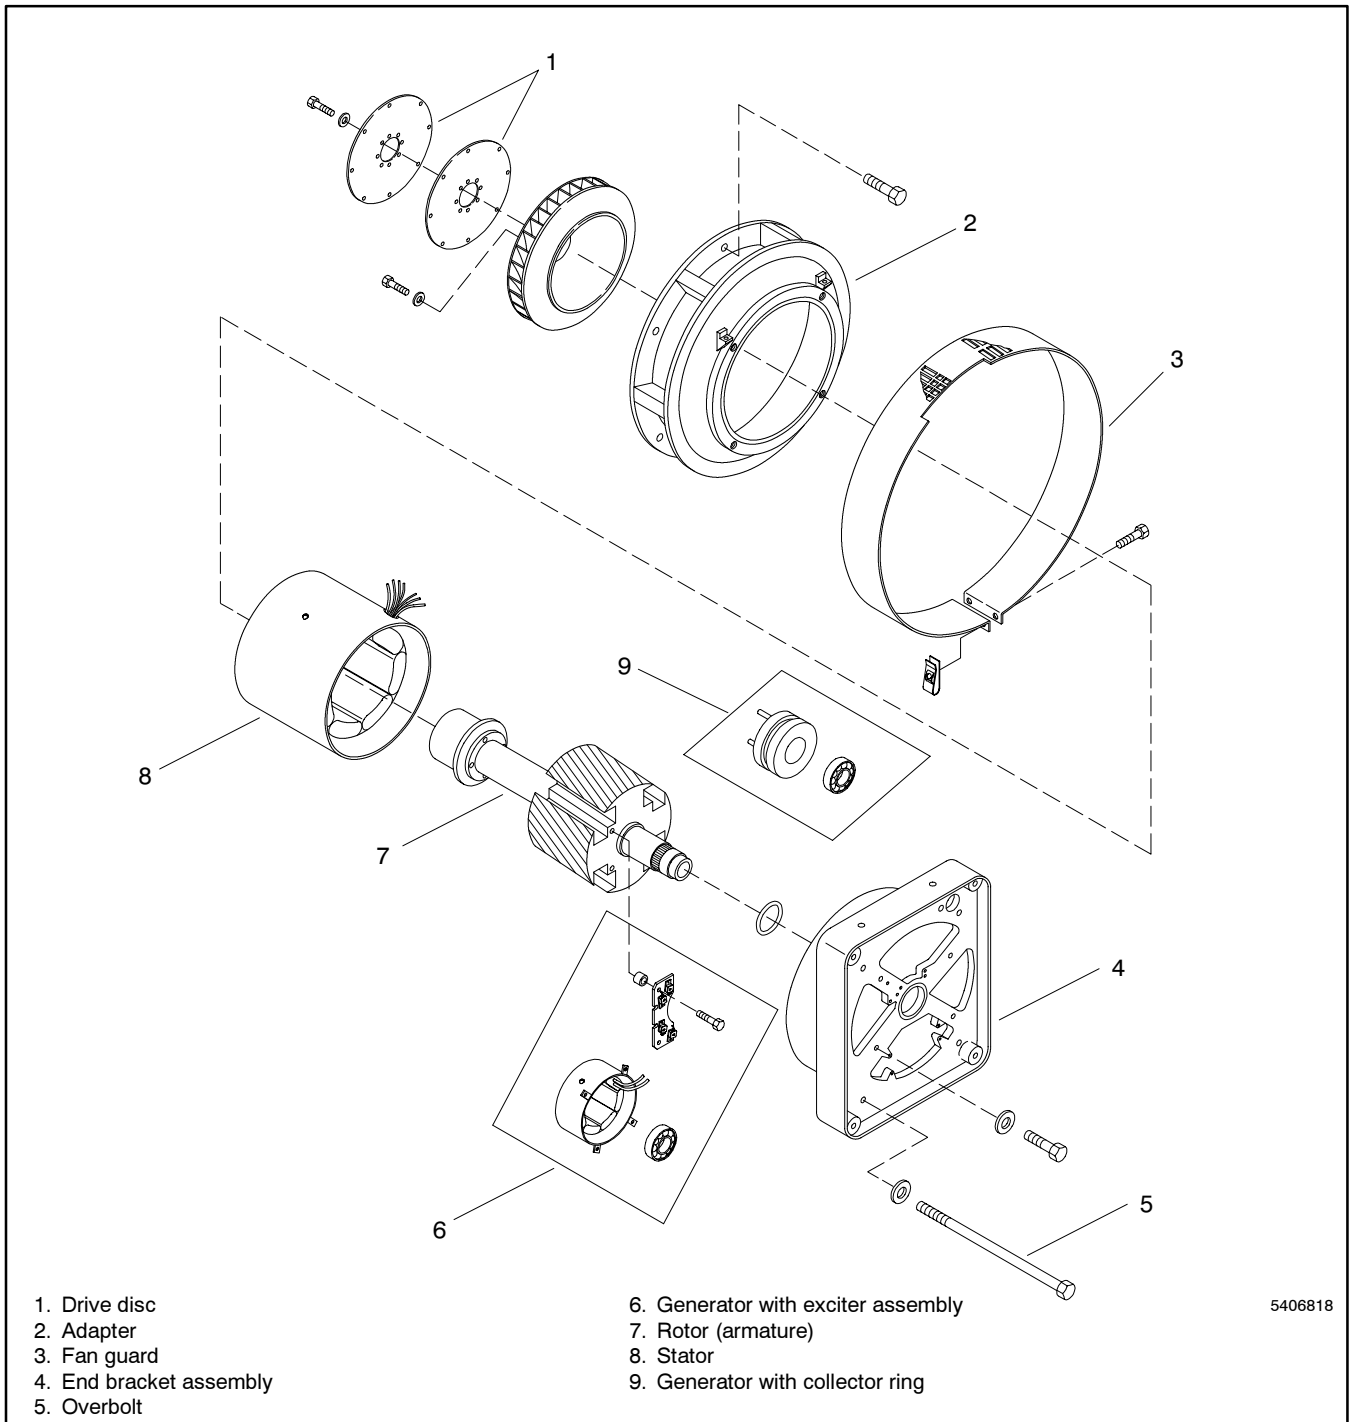

Figure 6-32 End Bracket Assembly, Stator, and Fan Guard Removal
12. Remove four overbolts securing end bracket to stator. Use a mallet to gently tap end brackets away from stator. Carefully pull stator and speed sensor leads through opening in end bracket during end bracket removal. See Figure 6-32.